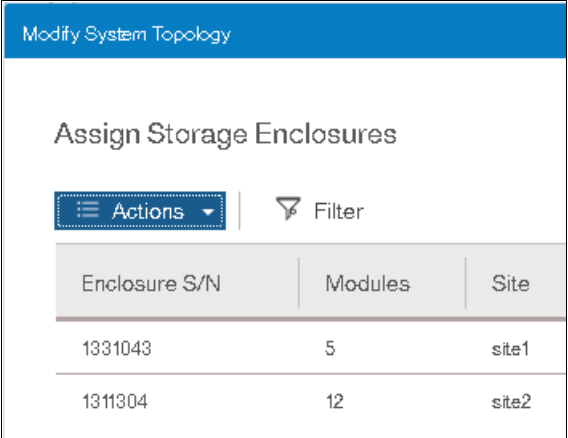

Figure 6-16 Storage enclosure site attributes
5. The site assignment for hosts is mandatory for HyperSwap (optional for Enhanced Stretched Cluster). Assign the site attributes to the storage enclosure (Figure 6-16).